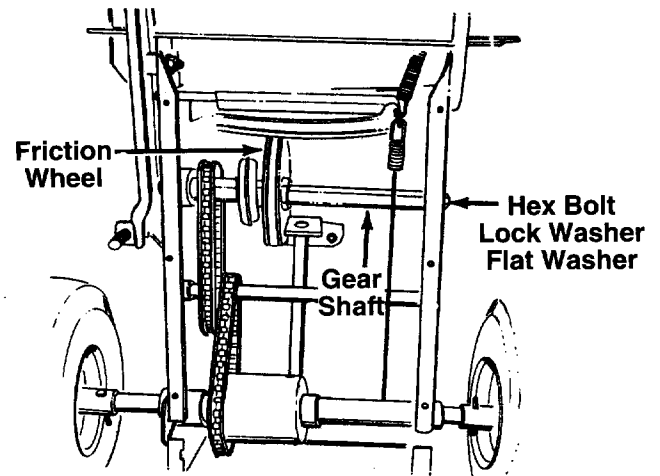

FIGURE 24.
- Remove the gear shaft from the unit by removing the hex bolts, lock washers and flat washers from each side of the frame. See figure 24. Hold the friction wheel assembly, and slide the gear shaft out of the unit toward the right side.